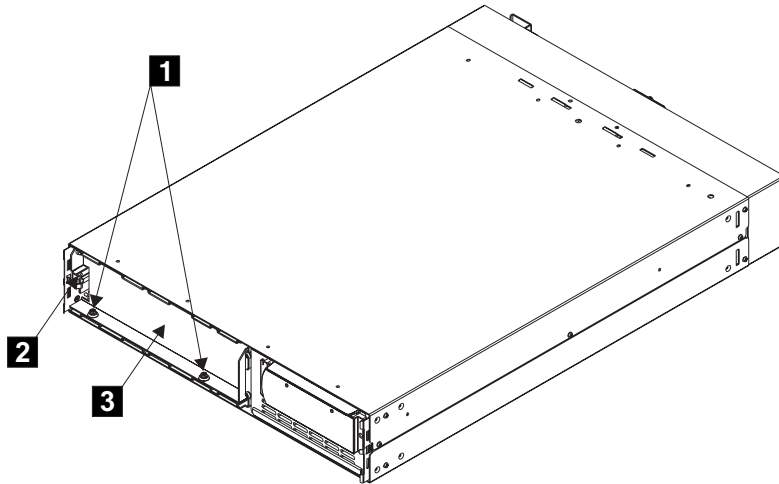

Figure 20. Removing the battery retaining bracket
5. Remove the two bolts **1** and additional nut **2** on the left side of the bracket (see Figure 20 on page 14) to remove the battery retaining bracket **3** .